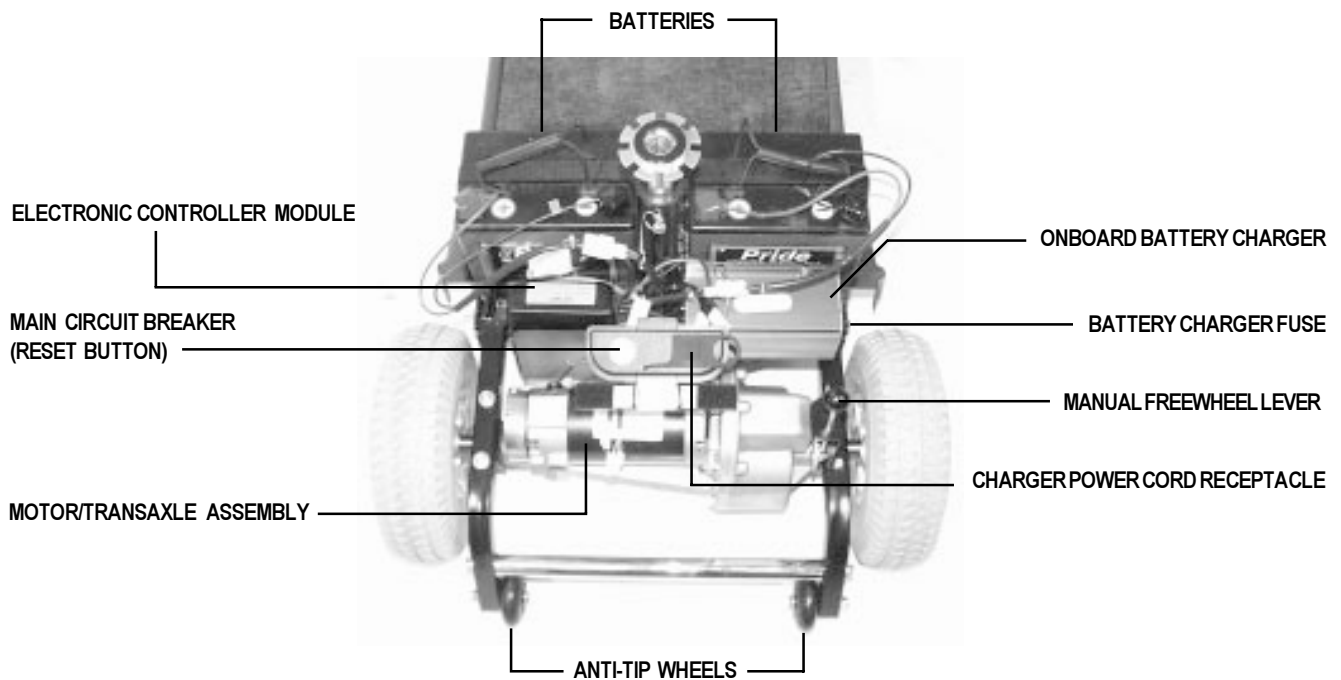

Figure 8. Rear Section
The electronic controller module, onboard battery charger, charger power cord receptacle, battery charger fuse, main circuit breaker, batteries, motor/transaxle assembly, and the manual freewheel lever are located on the rear section of your Victory. The anti-tip wheels are at the rearmost part of your Victory. See figure 8. Refer to VIII. “Disassembly and Assembly” for instructions on removing the rear shroud.
- The fuse is located under a cap on the outside of the battery charger. See figure 8.